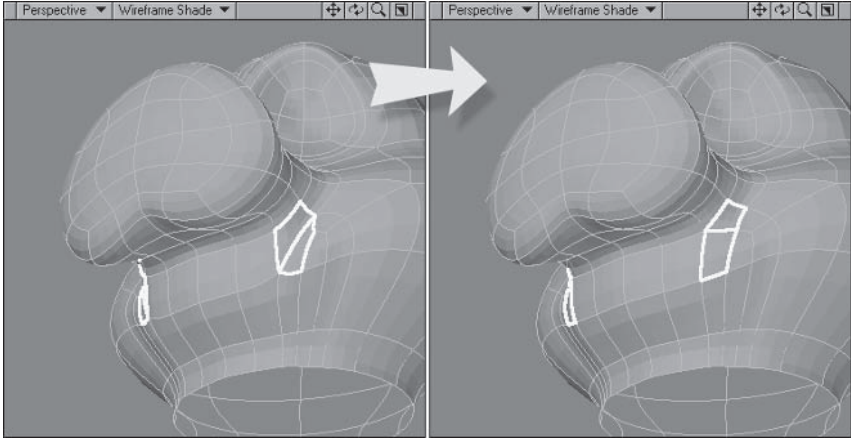

Figure 5.3-25. Spin Quads gets us out of trouble again.
3. Analyzing the new geometry, I can see we need to adjust the polygons at the top-left of the cut, as we've got an edge crossing where we want the top of the mouth to be. Select the two polygons shown in Figure 5.3-25 and **Spin Quads** twice to adjust the polygon flow.